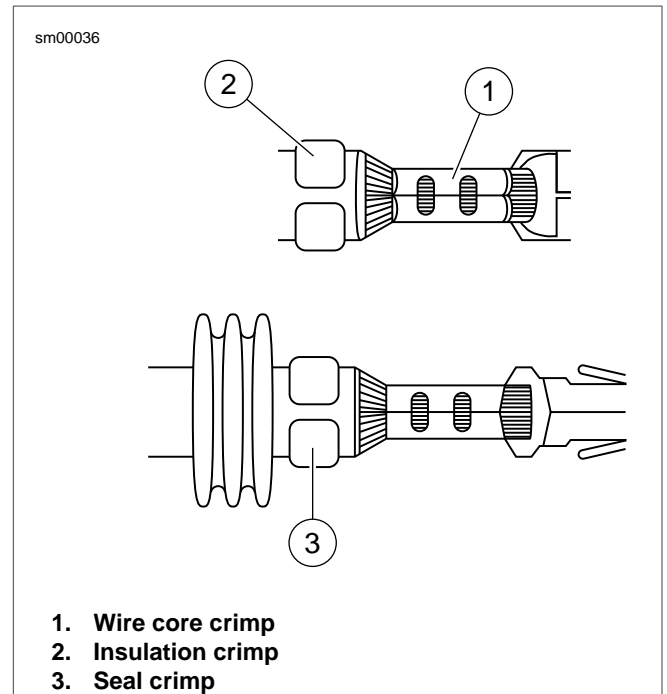

Figure A-32. Metri-Pack Connector: Inspect Core and Insulation/Seal Crimps
1. See Figure A-32. Identify the correct die for the insulation/seal crimp (2).
1. See Figure A-32. Inspect the wire core crimp (1). The tails should be folded in on the wire core without any distortion or excess wire strands.
2. Inspect the insulation (2) or seal (3) crimp. The tails of the terminal should be wrapped around the insulation without distortion.